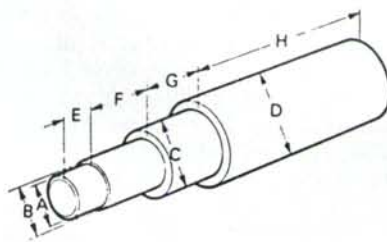

Fig. 164—When installing Borg and Beck continuous type clutch, use a pilot shaft made to dimensions shown.
To reinstall clutch, place springs (1) in flywheel, then install inner disc with large hub towards flywheel. Install separator plate aligning marks on plate and flywheel made during removal. Install outer disc with side stamped "Flywheel Side" facing flywheel. Install pressure plate assembly aligning match marks made during removal. Use a suitable pilot tool (Fig. 164) to align inner and outer discs, then tighten clutch mounting bolts evenly to 68 N·m (50 ft.-lbs.) torque.